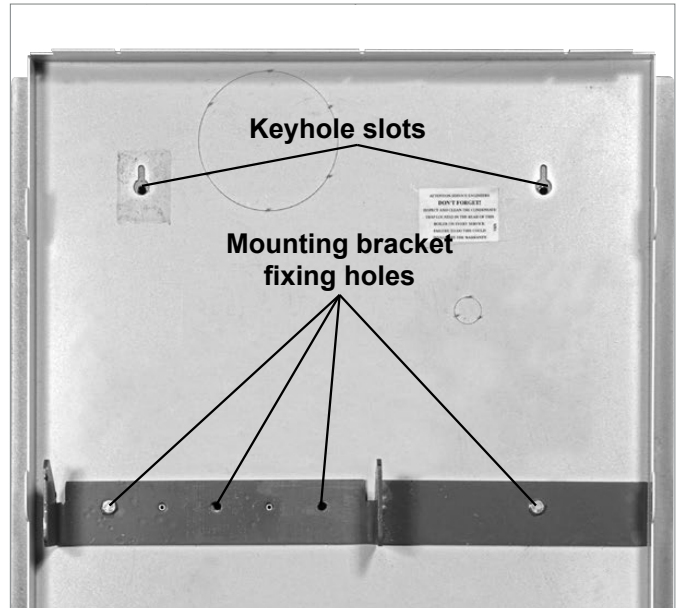

Figure 4-9: Mounting bracket and fixing holes in position on back panel
3. Locate and hold the back panel in the required position on the wall. Check it is level using a spirit level on the top flange. Mark position of the holes for the two keyhole slots. Remove the back panel from the wall. (See Figure 4-9).
the four holes in the bracket with those in the back panel (see Figure 4-9). Ensure that the mounting 'hooks' are pointing upwards and secure using the fixings supplied with the boiler.